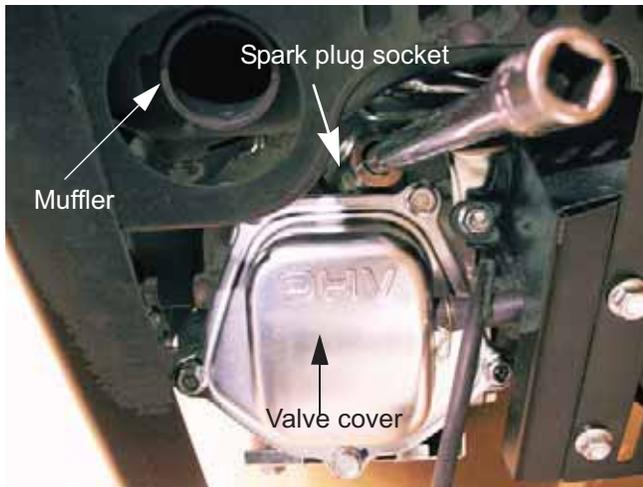

Figure 1.11
3. Remove the spark plug using a 13/16" or 21mm wrench. A flexible coupling or "wobbly" extension may help. See Figure 1.11.